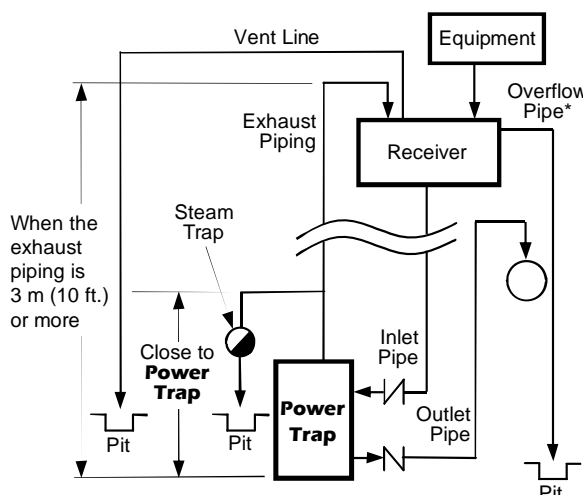

Figure 1: Open Systems
- (a) **For Open Systems only:** Add a float-type steam trap to the exhaust pipe at a point just above where the exhaust pipe exits the unit body. (Figure 1)